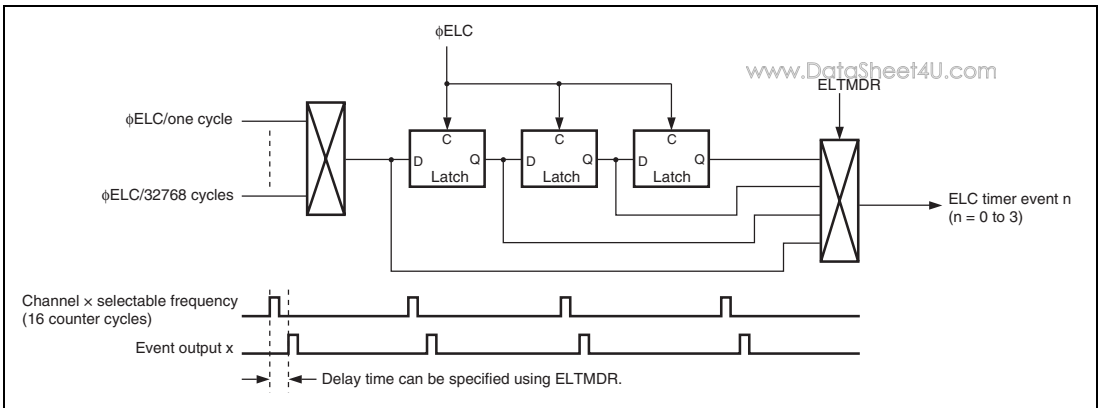

Figure 12.8 Operation of Event-Generation Timer
- Four-channel event output is available (figure 12.8).